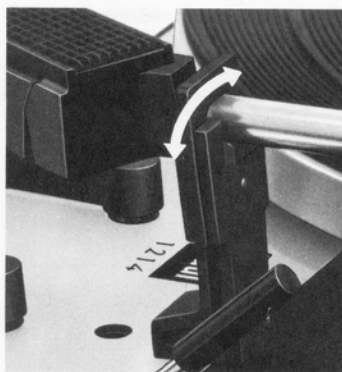

Fig. 7
Select the appropriate turntable speed ②, set the record size selector ⑬ to 7", 10" or 12" resp. (17, 25 or 30 cm), depending on the size of the record you want to play, and unlock the tonearm (Fig. 7).
**Note:** After a single record has played, or after the last record in a stack has played, the tonearm will return automatically to its rest and the motor will shut off. It is advisable then to lock the tonearm on its rest (Fig. 7).